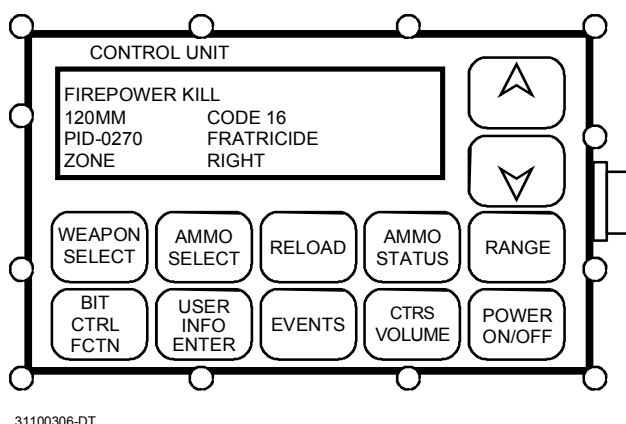

Figure 2-32. Control Unit (CU).
2.6.4 Communications Override Procedures. In the event of a Catastrophic or Communication Kill, the external communications can be over-ridden for emergencies. (See Figure 2-32.)